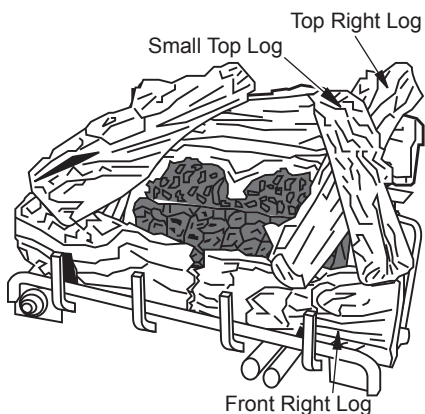

Figure 26 - Installing Log
- Place the small top right log as shown in Figure 26. The bottom of the log is shaped to fit onto the recessed areas of the top right log and the front right log. The recessed areas are painted yellow.